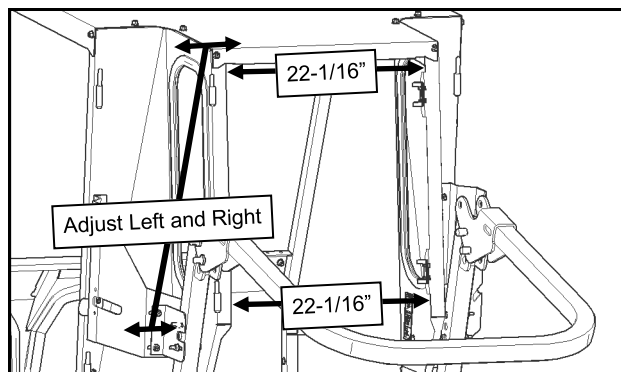

Fig. 16.2 (Measure Rear Flanges Left to Right)
- 16.2** See fig. 16.2. Measure the distance between the inside of the rear flanges of the rear legs. Adjust the rear legs to get as close to 22-1/16" as possible at *both* the top and bottom of the flanges. Tighten the hardware between the rear light mounts and the ROPS brackets that were installed in step 6.3.